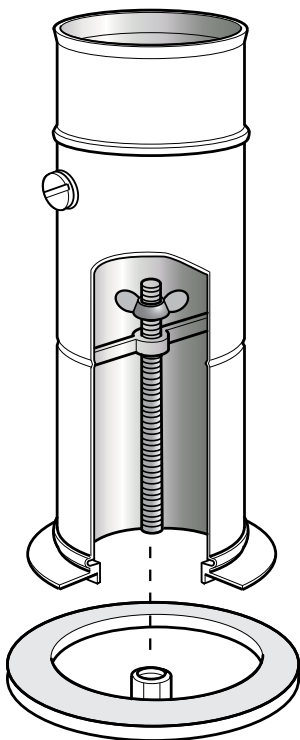

Figure 9-5: Boiler flue connector
4. Fit washer and wing nut provided onto the end of threaded studding and secure connector in position by tightening down on wing nut – as shown in Figure 9-5.